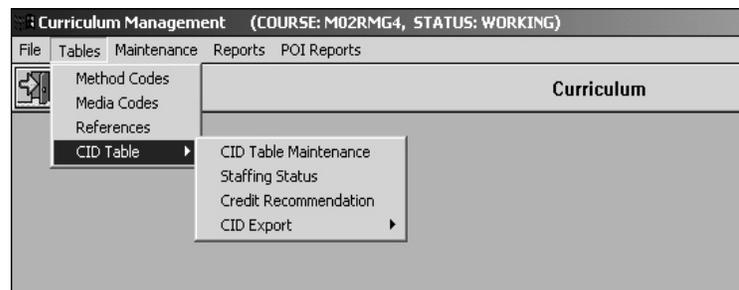

Figure 6-03. Tables Drop-down Menu
3. Choose the Tables option on the menu bar. The Tables drop-down menu (Figure 6-03) is displayed.